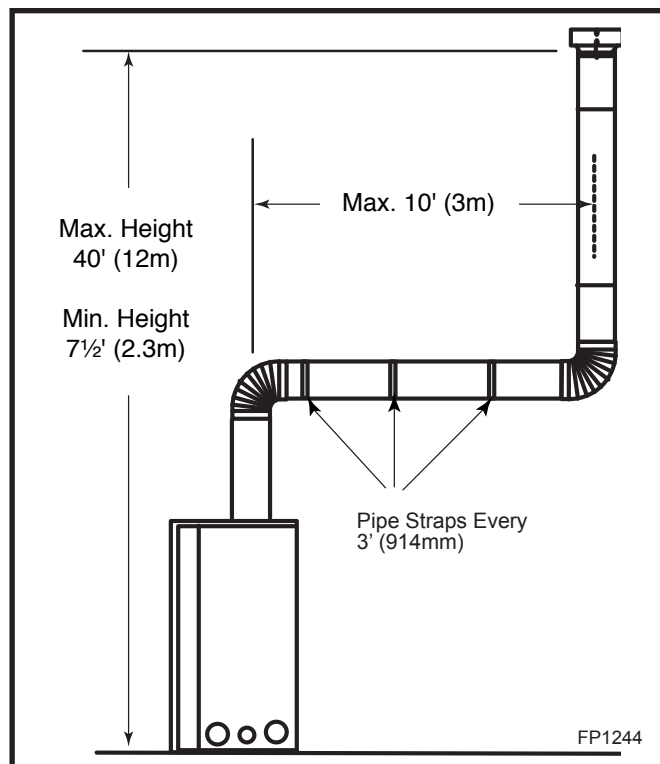

Fig. 31 Support straps for horizontal runs.
- Vertical installations up to 40' (12 m) in height. Up to a 10' (3 m) horizontal vent run can be installed within the vent system using a maximum of two 90° elbows. (Fig. 31)